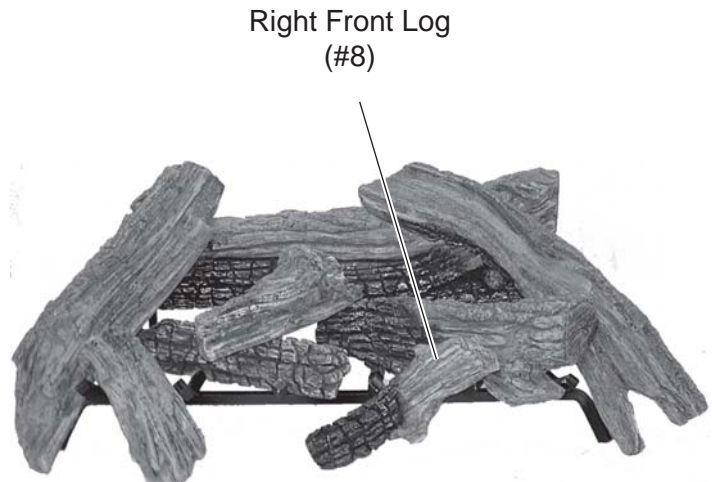

Figure 91 - Resting Front Right Log (#8) on Top Right Log and Front of Burner Pan
9. Rest Right Front Log #8 on top right log #4 and front of burner pan. *See Figure 91.*